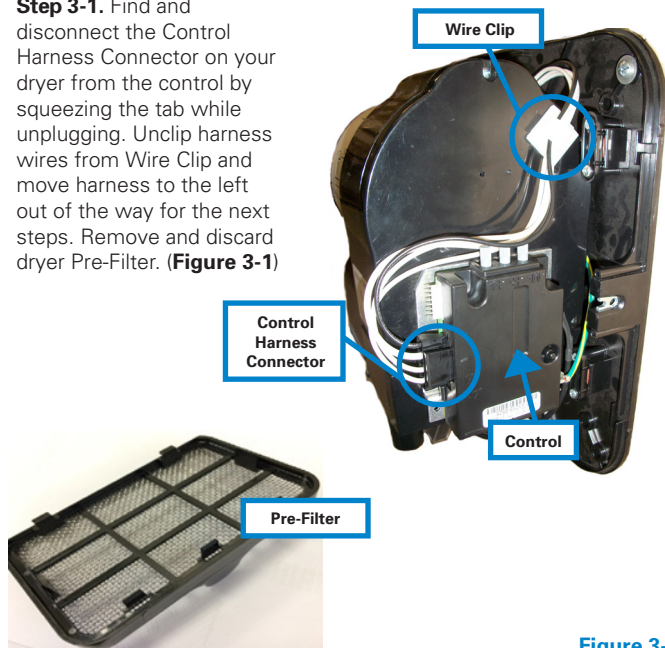

Figure 3-1
Step 3-1. Find and disconnect the Control Harness Connector on your dryer from the control by squeezing the tab while unplugging. Unclip harness wires from Wire Clip and move harness to the left out of the way for the next steps. Remove and discard dryer Pre-Filter. (Figure 3-1)